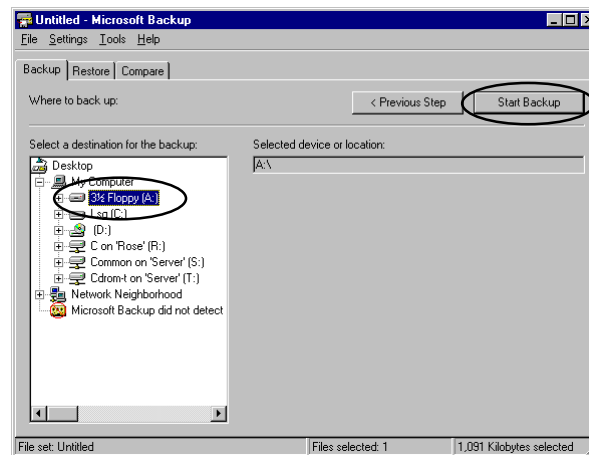

Figure 3
- 8) To continue, click on the **Next Step** button to see the screen shown in **Figure 3**.
- 9) As shown in **Figure 3**, click on "3½ Floppy (A:)" if you want to back up to a diskette in drive A:.